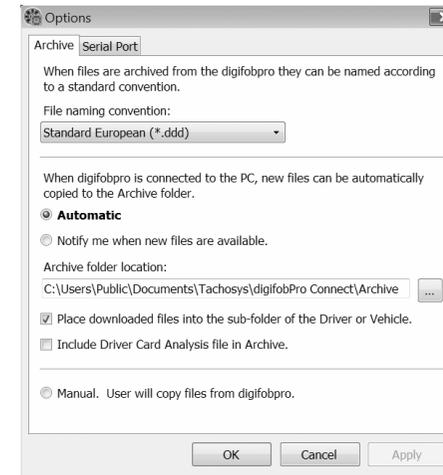

Fig 8.
You may change the Driver Card and Vehicle Unit file naming conventions to suit your country or analysis software. Select the most appropriate option from the drop down menu in Software Options (see Fig 8.).
1. Select the Archive tab at the top of the pop up window (see Fig 8.).